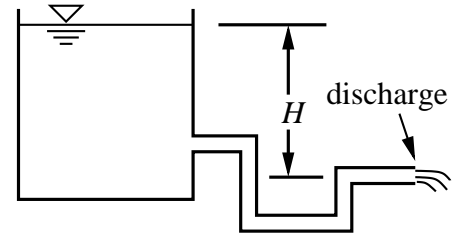

Fig. 1: Piping system.
- (10 pts) Water drains from a large tank through a system made of $D = 0.2\text{ m}$ inner diameter pipe having a surface roughness of $\varepsilon = 0.00026\text{ m}$ (Fig. 1). Discharge to the atmosphere is $H = 4.5\text{ m}$ below the free surface and the volume flow rate is $Q = 0.05\text{ m}^3/\text{s}$. If the four right-angle pipe components each have a loss coefficient of $K_a = 0.25$ and the exit itself has a loss coefficient of $K_e = 1$, calculate the total length of the straight pipe sections. (We assume that the inlet to the pipe is “well-rounded” so that its losses are negligible.) Assume a water viscosity and density of $\nu = 1.2 \times 10^{-6}\text{ m}^2/\text{s}$ and $\rho = 1000\text{ kg}/\text{m}^3$, respectively.